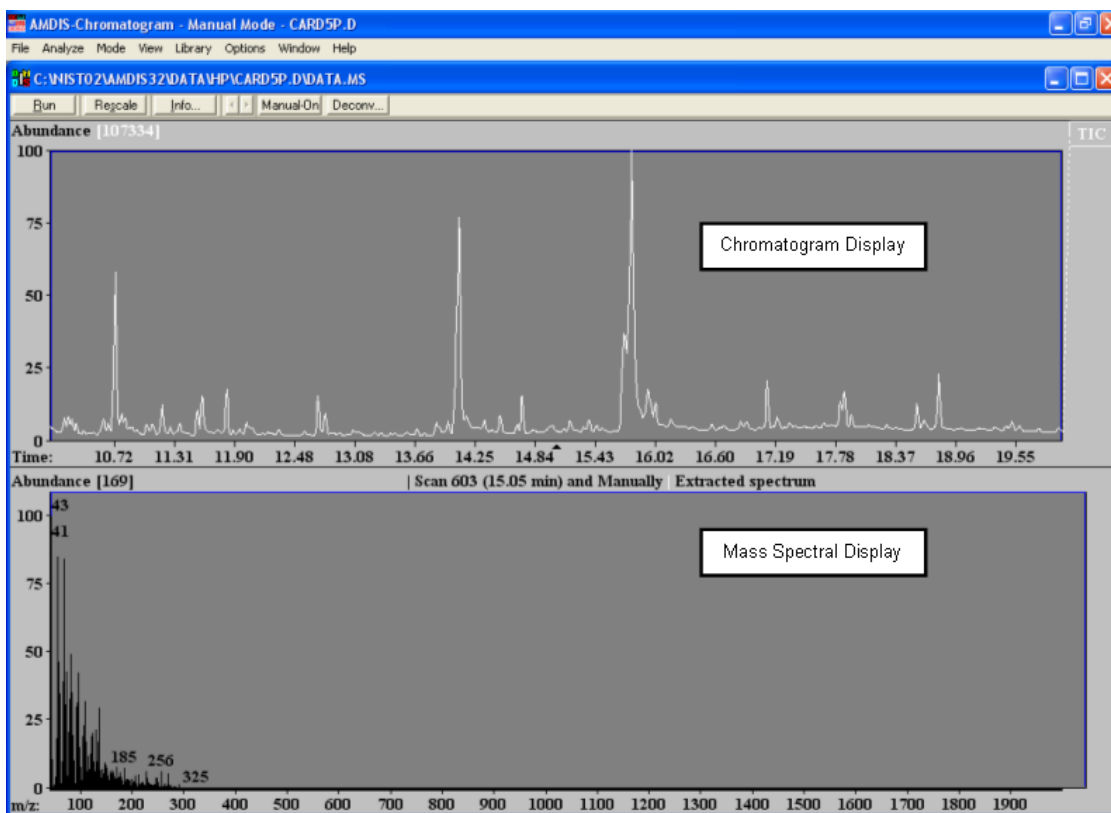

Figure 2 - Confirm window showing unprocessed data
- 1) Click **File | Open** and in the *Select Data File* dialog, navigate to the *WIST08\AMDIS32\TUTORIAL* folder, select the file *CARD5P.D* and click **Open**. The window shows the file’s TIC in the upper half (*Chromatogram Display*) and the spectrum at the center of the displayed TIC range is shown in the lower half (*Mass Spectral Display*); Figure 2 - Confirm window showing unprocessed data.